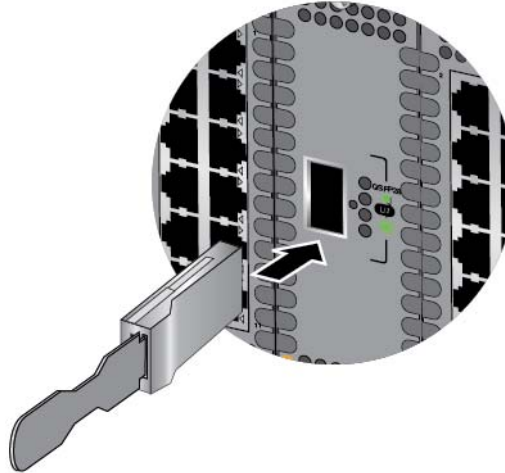

Figure 100. Installing an 100Gbps QSFP28 Transceiver in the XEM2-1CQ Line Card
- XEM2-1CQ line card - Position the 100Gbps QSFP28 transceiver's handle on the right. Refer to Figure 100 on page 140.